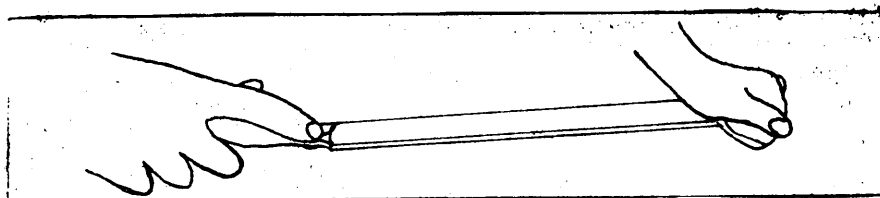

Figure 10.
5. For heavy filing grasp handle with whole hand and grip firmly the other end. (Figure 10).